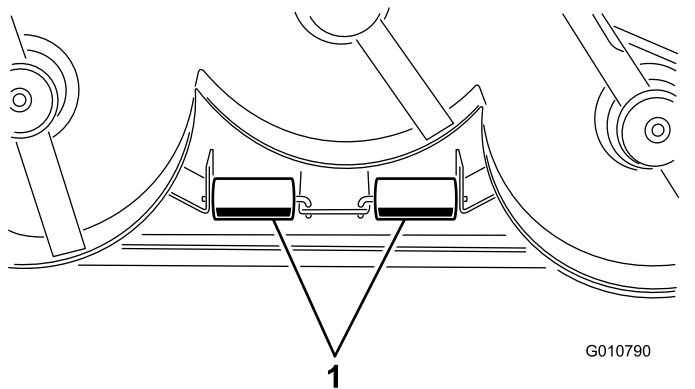

Figure 13
1. Remove the cotter pins securing the roller shafts to the brackets on the underside of the deck (Figure 13).